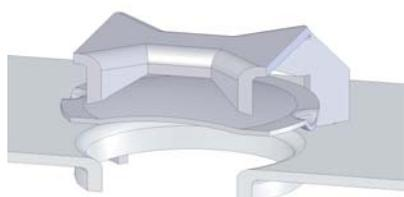

Fig. 4: Venturi Deck Opening
**Venturi shaped panel openings** (see Fig. 4) are fabricated to achieve minimum pressure drop. The length of the legs has to compensate this additional "thickness" of the tray panel. The venturi height is normally about 6.7mm. The legged valves are often called "V4", the caged units "A4" or "T0" (depending on the cage type).